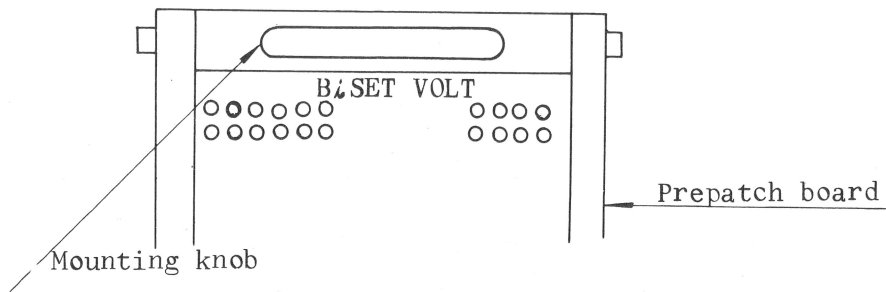

Fig. 5-10
•Position A; the position to mount or dismount the prepatch board and patch pins. Carry out the control by pushing the mounting knob at the top of patch board to the inside as shown in Fig. 5-10.